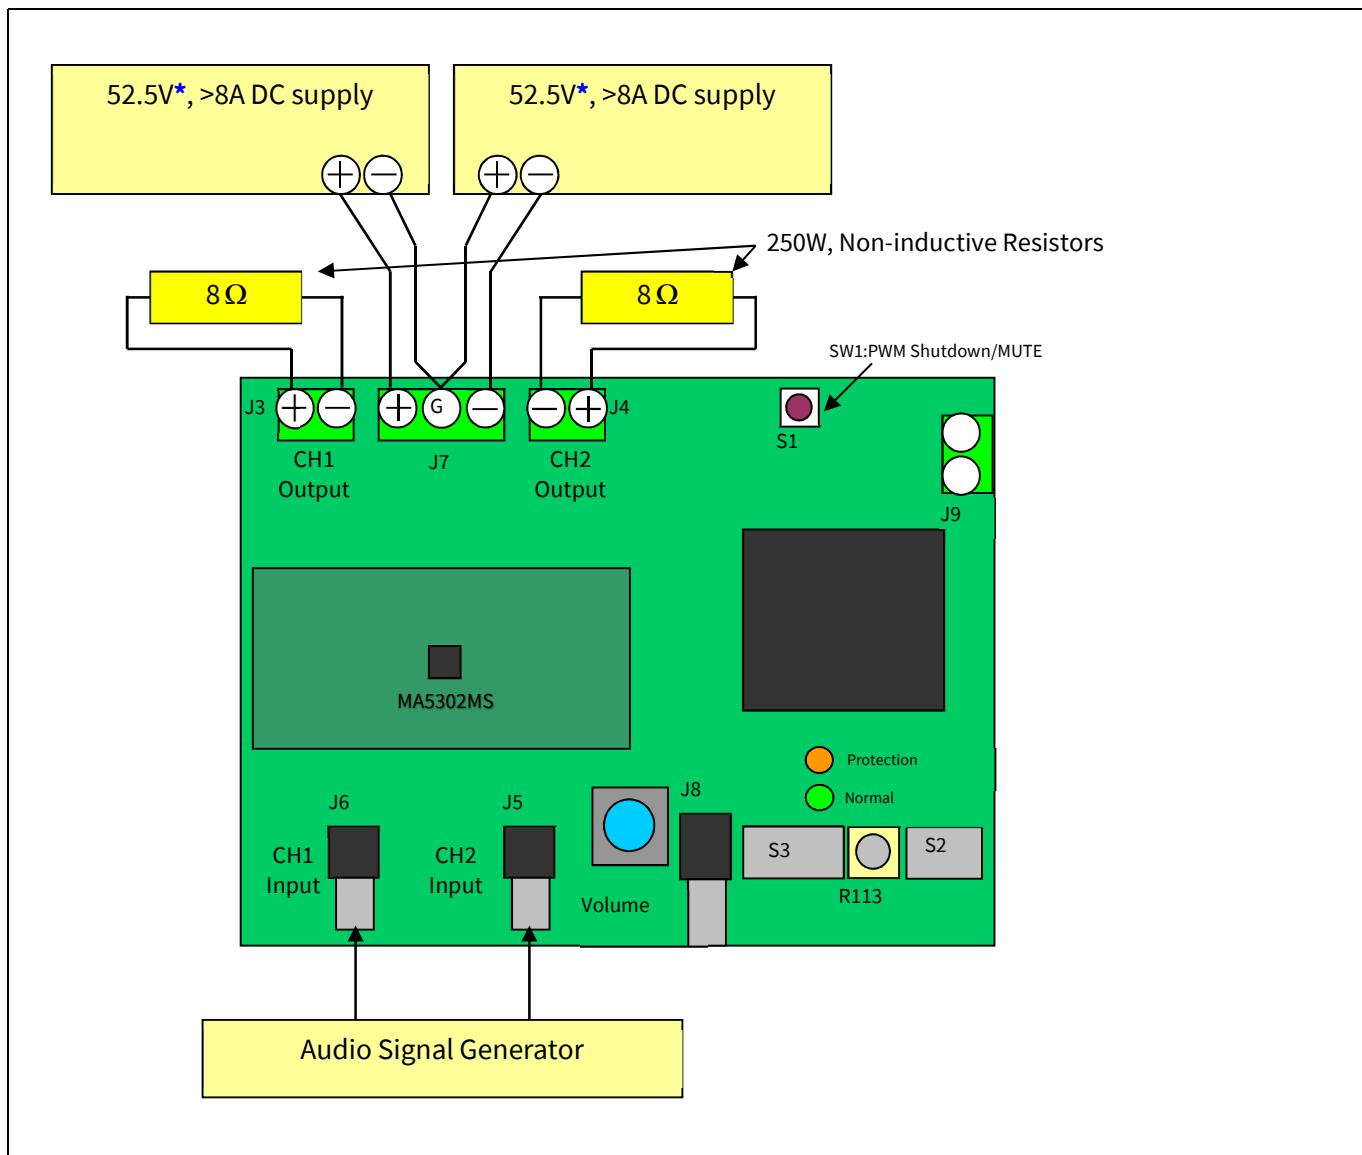
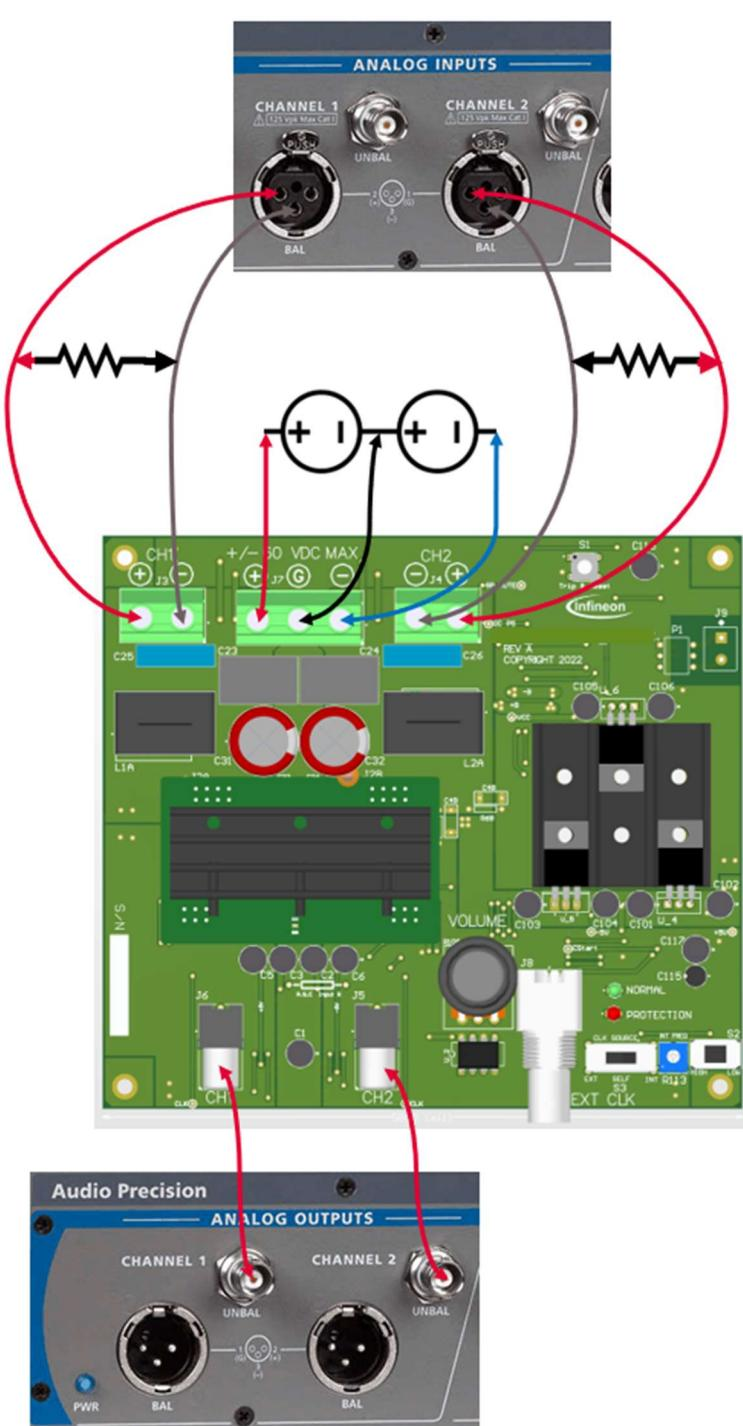

Figure 2 Typical connection connector description
Figure 3 **Audio analyzer connection**
1. Connect $8\ \Omega$ 250 W dummy loads to output connectors (J3 and J4 as shown in Figure 2) and parallel it with the input of the Audio Precision (AP) analyzer.
2. Connect the Audio Signal Generator (ASG) to J6 and J5 for CH1 and CH2 respectively (AP).
7. Connect the dual power supply to J7, as shown in Figure 2 or Figure 3